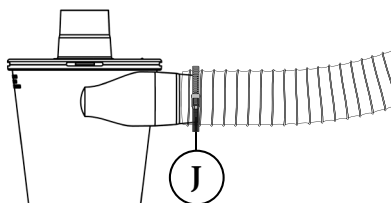
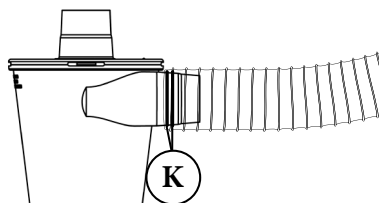

FIG. 4b
FIG. 4c
Note: If your vacuum hose is not tight on the inlet or it keeps pulling off, use the Clamp Band (J) and/or the two O-Rings (K) [FIG. 4b] [FIG. 4c].